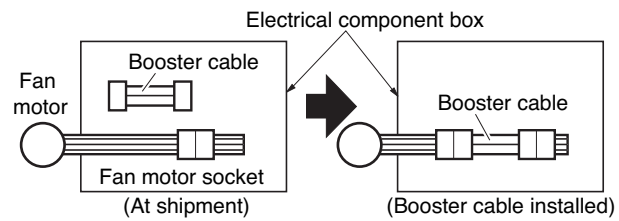

Fig. 3-104
- (1) Remove 4 screws on the electrical component box and remove the cover plate.
- (2) Disconnect the fan motor sockets in the box.
- (3) Take out the booster cable (sockets at both ends) clamped in the box.
- (4) Securely connect the booster cable sockets between the disconnected fan motor sockets in step 2 as shown in the Fig. 3-104.
- (5) Place the cable neatly in the box and reinstall the cover plate.